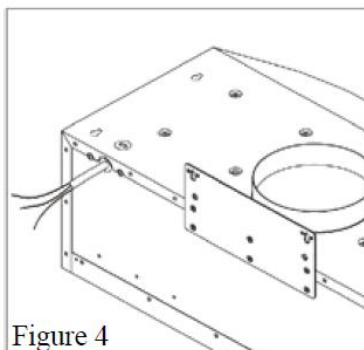

Figure 4
3. Puncture the knockout wire access hole at the back of the hood and draw the electrical wires through as shown in Figure 4.